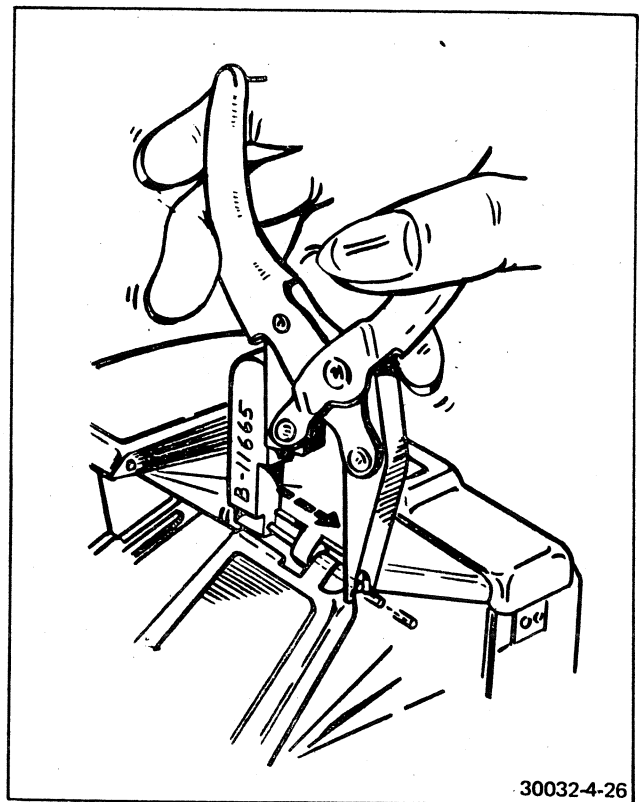

FIGURE 4-26 REMOVING SHORT-COVER-TO-MIRROR-COVER HINGE PINS
a. Use Special Tool #11665. Remove the mirror-cover-to-short-cover hinge pins (Figure 4-26).
- f. Remove the two (2) short-cover-to-mirror-cover hinge pins, using Special Tool #11665 by inserting it through the separation between the short cover and the mirror cover (Figure 4-26).